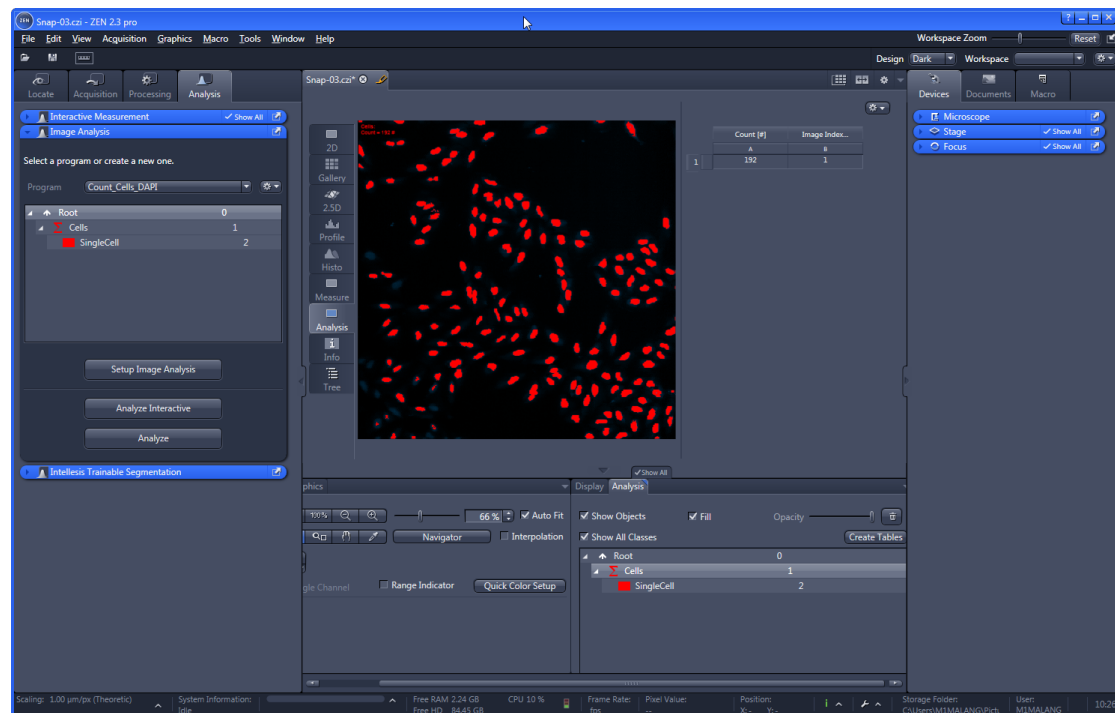

Figure 20: Image Analysis: Run the image analysis on sample data
5. Run the analysis pipeline using the Analyze button and check the results to ensure that the image analysis gives the results for further use within the Experiment Feedback (Fig. 20).